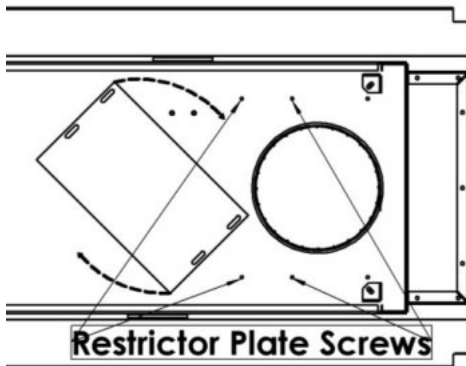

Fig.2
2. Rotate the Flue Restrictor 180°. (**Fig.2**). Place the Flue Restrictor over the Flue & start the [4] DT screws in the screw holes.